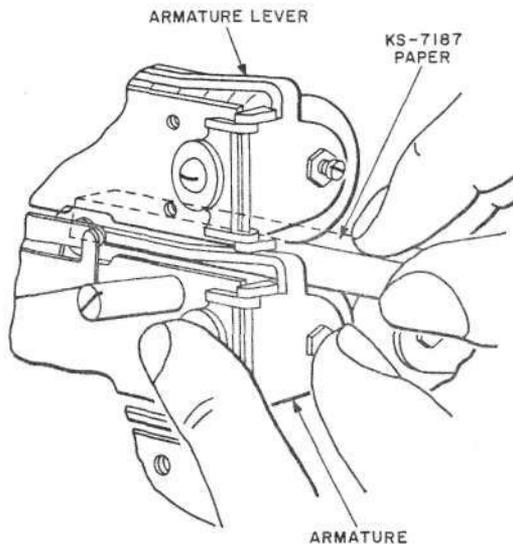

Fig. 54—Method of Cleaning Backstop on 221-, 222-, 223-, 224-, 225-, 247-, 248-, 251-, and 252-Type Relays
7.16 Backstops on 221-, 222-, 223-, 224-, 225-, 247-, 248-, 251-, and 252-Type Relays: Fold a piece of KS-7187 paper in half lengthwise. Insert one side of the folded paper between the armature lever and the backstop as illustrated by Fig. 54, at the same time holding the armature operated to permit the paper to enter easily. Hold the armature against the backstop with a force sufficient to give a slight pressure between the armature lever and the backstop and then withdraw the paper. Repeat the operation until the paper shows no evidence of dirt when it is removed. Use a clean piece of paper for each operation.